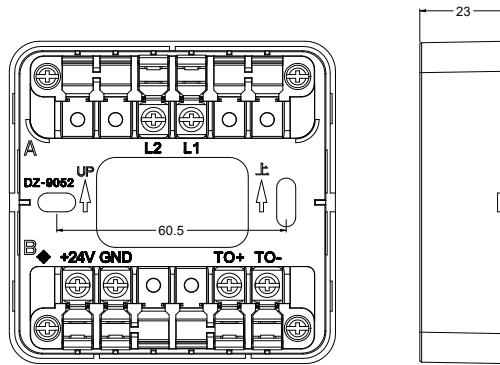

Fig.2 Base of the BP-FD-AZM310 Module (unit: mm)
- 1) Terminal description for the BP-FD-AZM310 module (see Fig.2)
- 4) Use two M4 screws to fix the module base via the two screw holes shown in Fig.2, then insert the main body of the BP-FD-AZM310 module into the module base and make sure they contact each other properly.